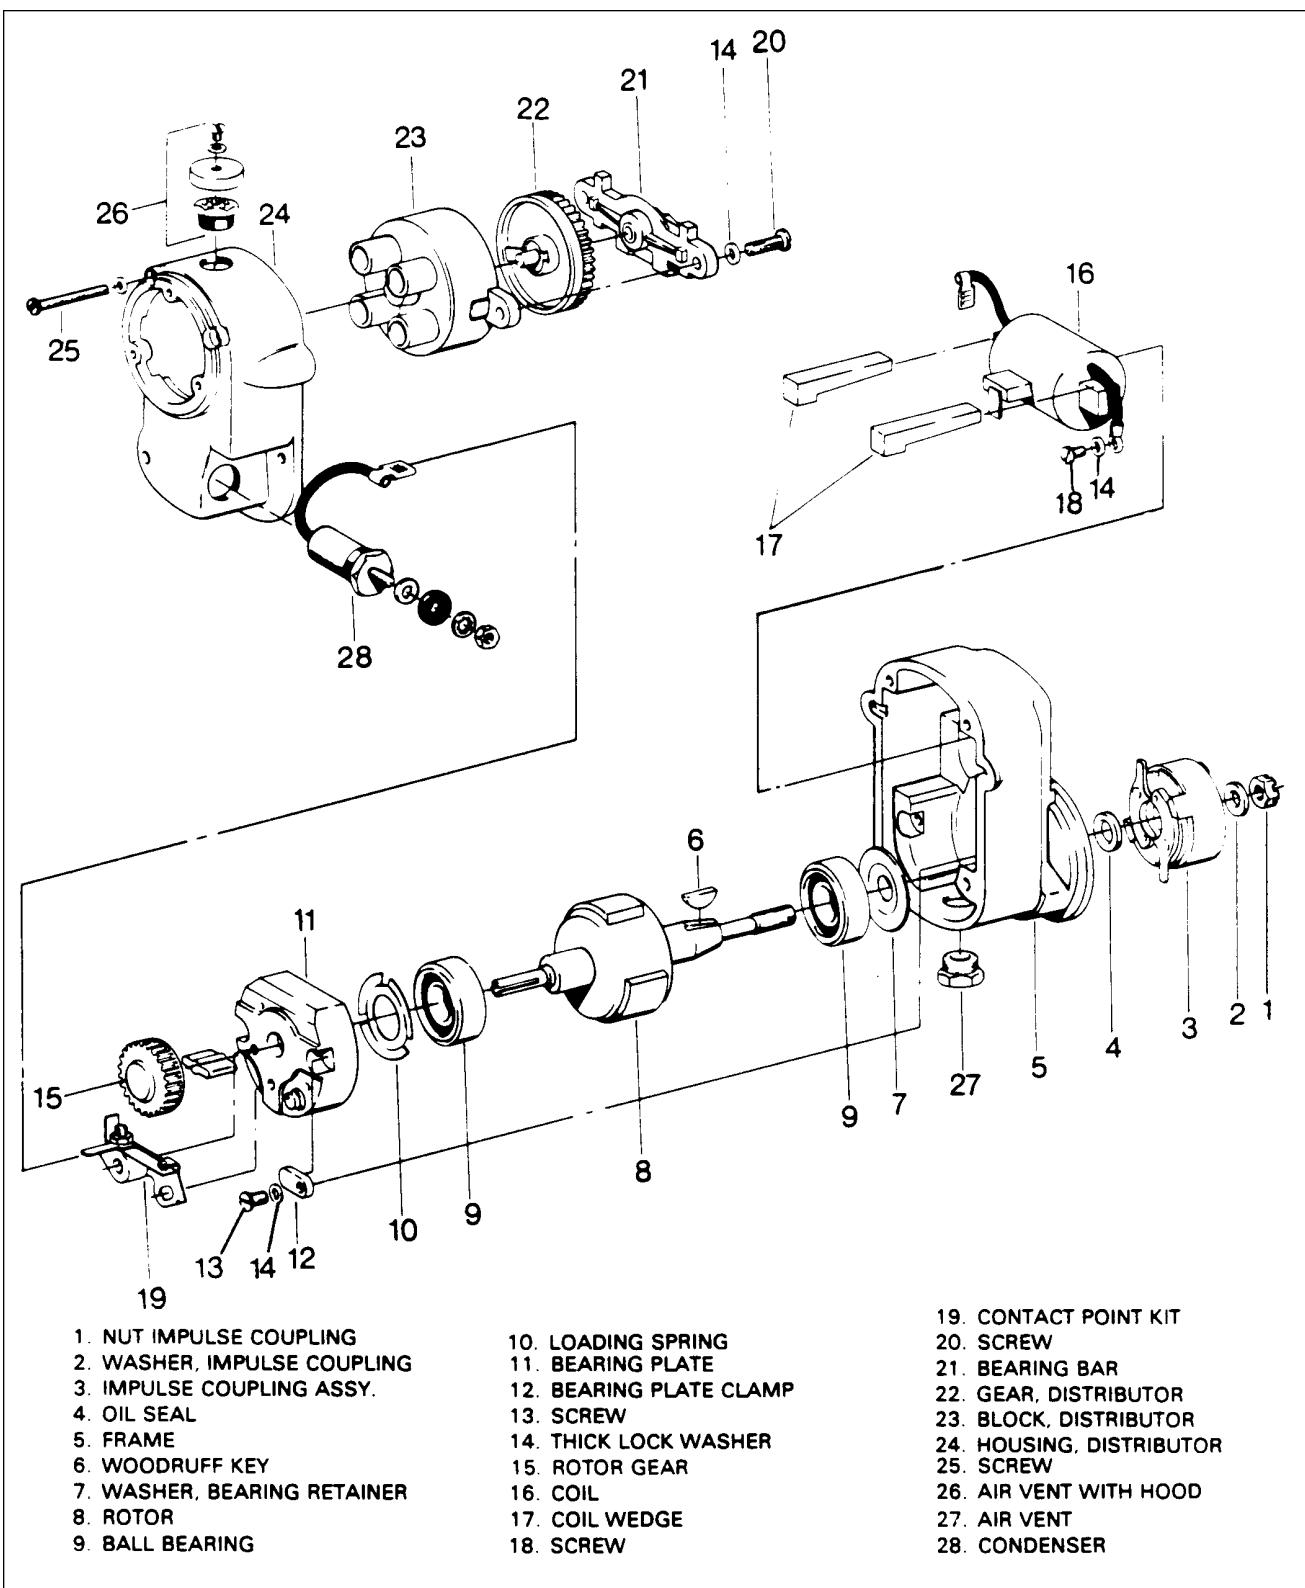

Figure 74-3. Exploded View of 4200 Series Magneto
1. Disassembly Of Magnets (Refer to Figure 74-3.)